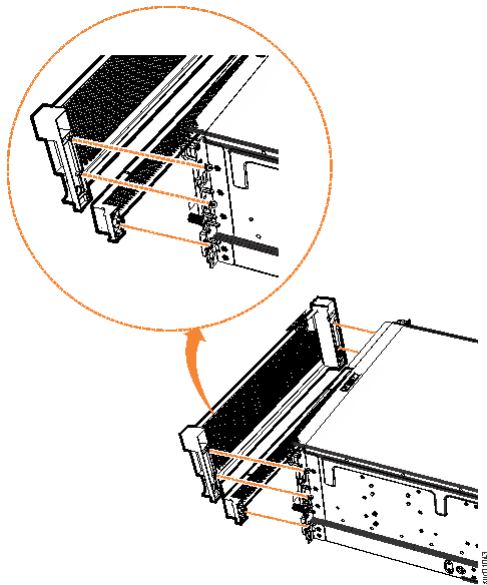

Figure 33. Replace fascia components on the expansion enclosure
1. Align the front 4U fascia with the enclosure so that the thumbscrews go through the holes on each side. As Figure 33 on page 45 shows, this action aligns the screw holes on the back of the fascia with the screw holes on the front flange of the enclosure.
3. Reattach the bottom 1U fascia that covers the power supply units (PSUs). Align the fascia with the enclosure and gently push it until it clicks into place on the chassis, as shown in Figure 33 on page 45.